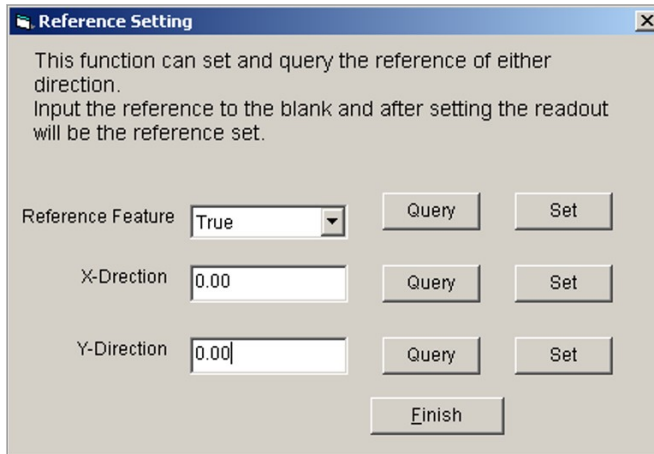

FIGURE 46: Reference Setting Window
The Reference Setting feature (Figure 46) allows the output of the unit to be adjusted for a given value. This feature is often used to maintain contiguous data when replacing units in service or when moving units for regular cleaning or other maintenance. If the Reference feature is not used, the values must be adjusted during post-processing to account for differences in the measurements after moving or replacing a unit.
5. The program will return to the Reference Setting window (Figure 46). Select **Finish** to return to the main screen.
Note: To show changes in movement after installation, configure the fields as shown in Figure 46.